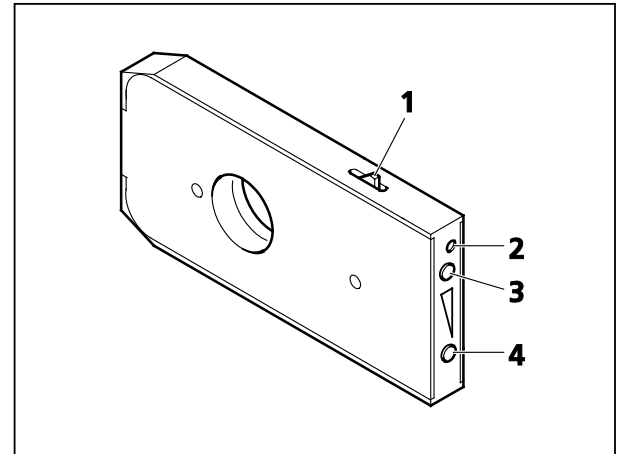

Fig. 82 Inserting / removing the FL attenuator mot.
- Before inserting the FL attenuator, first activate the click-stop mechanism (Fig. 82/1) by pushing it in. At the right-hand front end (Fig. 82/2) a small silver plate becomes visible. Then, push the FL attenuator into the corresponding slot until you hear it click into place.
- To remove the FL attenuator, insert a screwdriver into the top hole (Fig. 82/2) and push in the silver plate to deactivate the click-stop mechanism. Slightly cant the screwdriver in the hole and pull the FL attenuator out of the slot.
- The FL attenuator has six positions that can be set by pushing buttons (Fig. 82/3) or (Fig. 82/4) for forwards or backwards.